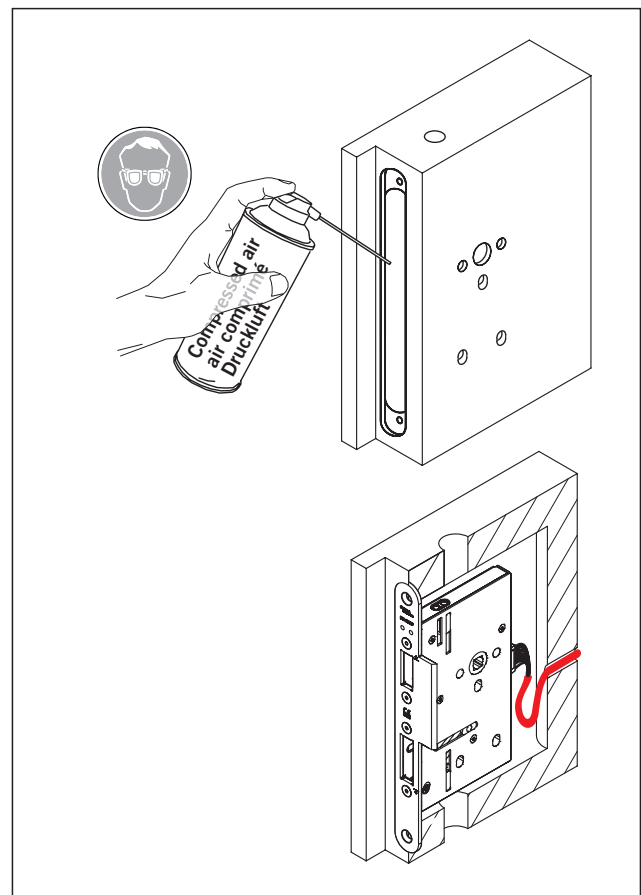

Fig. 39 Insert lock
5. Insert the lock into the door leaf recess (Abb. 39).